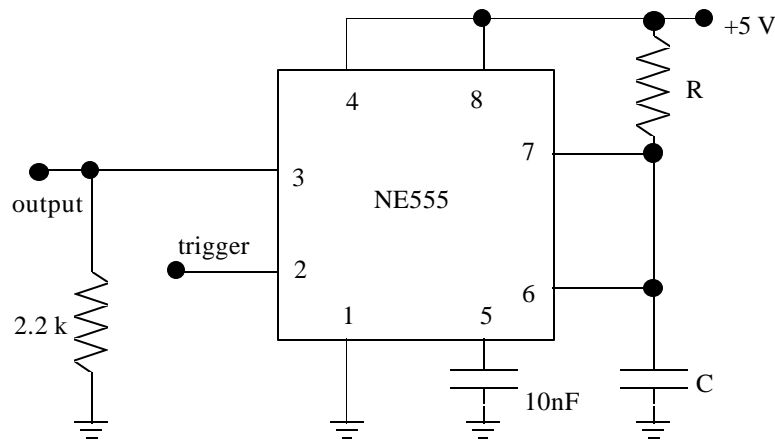

Figure 11.3 Using NE555 in the single-pulse monostable mode
11.2 Now build the circuit in Figure 11.3 using the 555 as a single-pulse generator ("monostable" mode):